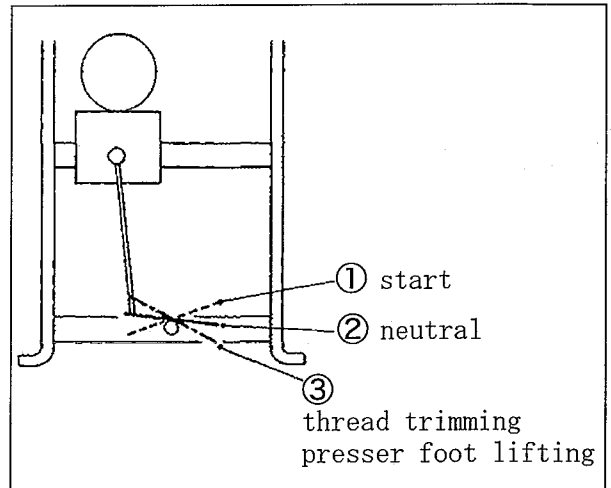

Fig. 1-4
- (1) Heel back the pedal to raise the presser foot.
- (2) Place the material under the presser foot and toe down the pedal. (Fig. 1-4 ①)
- (3) Release the pedal. (Fig. 1-4 ②)
- (4) Heel back the pedal. (Fig. 1-4 ③)
- (5) Release the pedal. (Fig. 1-4 ②)